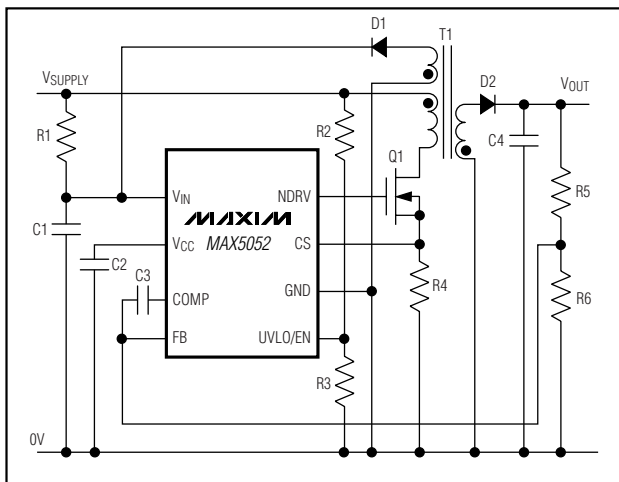
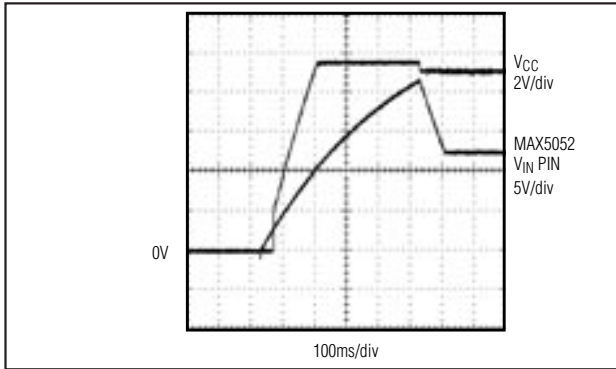

Figure 1. Nonisolated Power Supply with Programmable Input-Supply Start Voltage
Figure 2.  $V_{IN}$  and  $V_{CC}$  During Startup when Using the MAX5052 in Bootstrapped Mode (Figure 1)
**Note 3:** The MAX5052 is intended for use in universal input power supplies. The internal clamp circuit is used to prevent the bootstrap capacitor ( $C_1$  in Figure 1) from charging to a voltage beyond the absolute maximum rating of the device when EN/UVLO is low. The maximum current to  $V_{IN}$  (hence to clamp) when UVLO is low (device in shutdown) must be externally limited to 2mA, max. Clamp currents higher than 2mA may result in clamp voltage higher than 30V, thus exceeding the absolute maximum rating for  $V_{IN}$ . For the MAX5053, do not exceed the 24V maximum operating voltage of the device.
Power supplies designed with the MAX5052 use a high-value startup resistor, R1, that charges a reservoir capacitor, C1 (see Figure 1). During this initial period, while the voltage is less than the internal bootstrap UVLO threshold, the device typically consumes only 45µA of quiescent current. This low startup current and the large bootstrap UVLO hysteresis helps to minimize
Use this UVLO function to program the input-supply start voltage. For example, a reasonable start voltage for a 36V to 72V telecom range might be set at 34V. Calculate the divider resistor values, R2 and R3 (see Figure 1) by using the following formulas:
Normally  $V_{IN}$  is derived from a tertiary winding of the transformer. However, at startup there is no energy delivered through the transformer, hence, a special bootstrap sequence is required. Figure 2 shows the voltages on  $V_{IN}$  and  $V_{CC}$  during startup. Initially, both  $V_{IN}$  and  $V_{CC}$  are 0V. After the line voltage is applied, C1 charges through the startup resistor, R1, to an intermediate voltage. At this point, the internal regulator begins charging C2 (see Figure 1). The MAX5052 uses only 45 $\mu$ A of the current supplied by R1, and the remaining input current charges C1 and C2. The charging of C2 stops when the  $V_{CC}$  voltage reaches approximately 9.5V, while the voltage across C1 continues rising until it reaches the wake-up level of 21.6V. Once  $V_{IN}$  exceeds the bootstrap UVLO threshold, NDRV begins switching the MOSFET and transfers energy to the secondary and tertiary outputs. If the voltage on the tertiary output builds to higher than 9.9V (the bootstrap UVLO lower threshold), then startup has been accomplished and sustained operation commences.
The  $V_{IN}$  bypass capacitor,  $C_1$ , supplies current immediately after wake up (see Figure 1). The size of  $C_1$  and the connection configuration of the tertiary winding determine the number of cycles available for startup. Large values of  $C_1$  increase the startup time but also supply gate charge for more cycles during initial startup. If the value of  $C_1$  is too small,  $V_{IN}$  drops below 9.9V because NDRV does not have enough time to switch and build up sufficient voltage across the tertiary output which powers the device. The device goes back into UVLO and does not start. Use a low-leakage capacitor for  $C_1$  and  $C_2$ .
The above startup method is applicable to a circuit similar to the one shown in Figure 1. In this circuit, the tertiary winding has the same phase as the output windings. Thus, the voltage on the tertiary winding at any given time is proportional to the output voltage and goes through the same soft-start period as the output voltage. The minimum discharge voltage of  $C_1$  from 22V to 10V must be greater than the soft-start time of 60ms.
The MAX5052/MAX5053 include an internal error amplifier that can be used to regulate the output voltage in the case of a nonisolated power supply (see Figure 1) Calculate the output voltage using the following equation: